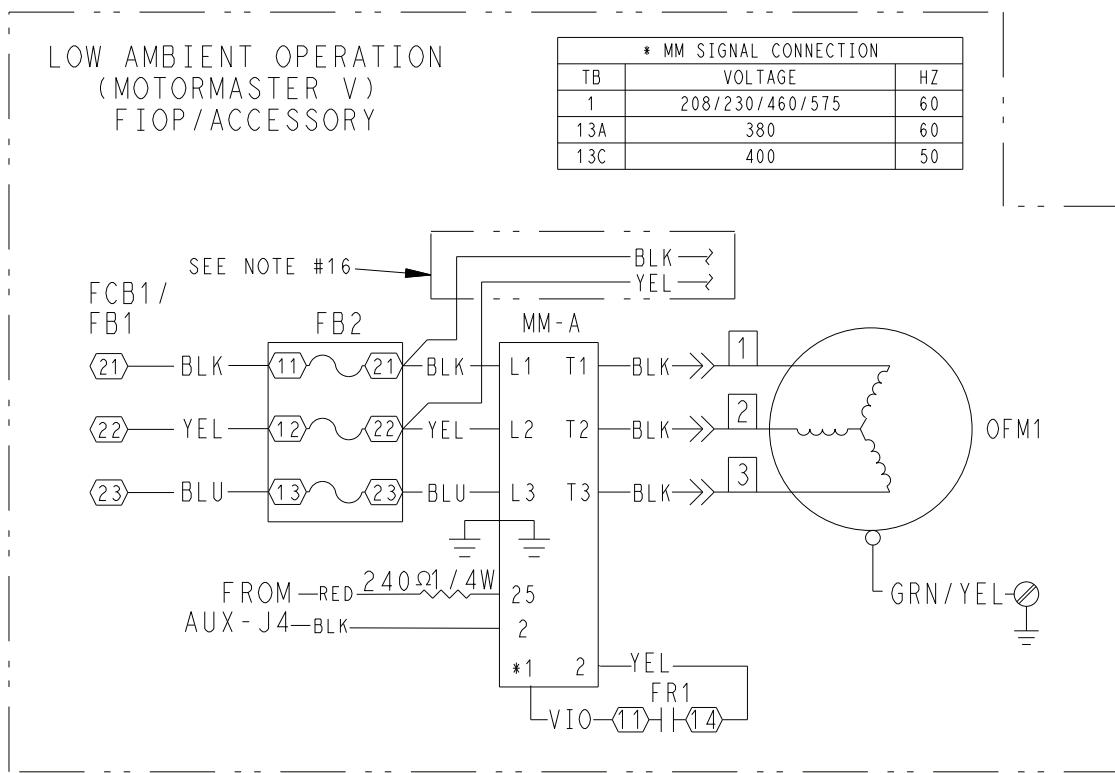

Fig. 8 — Motormaster® V Power Wiring — 38AP025-030 Units
4. Connect fan wires from fan motor to terminals T1, T2, and T3 per Fig. 8.
- a. Connect BLK, YEL and BLU wires from harness 38APHLSSFV-A00 to fuse block 2 (FB2) and the other end to MM connection L1, L2 and L3 per Fig. 8.
- c. Connect VIO and YEL wires to terminal 14 and 11 of FR-1 per Fig. 8.